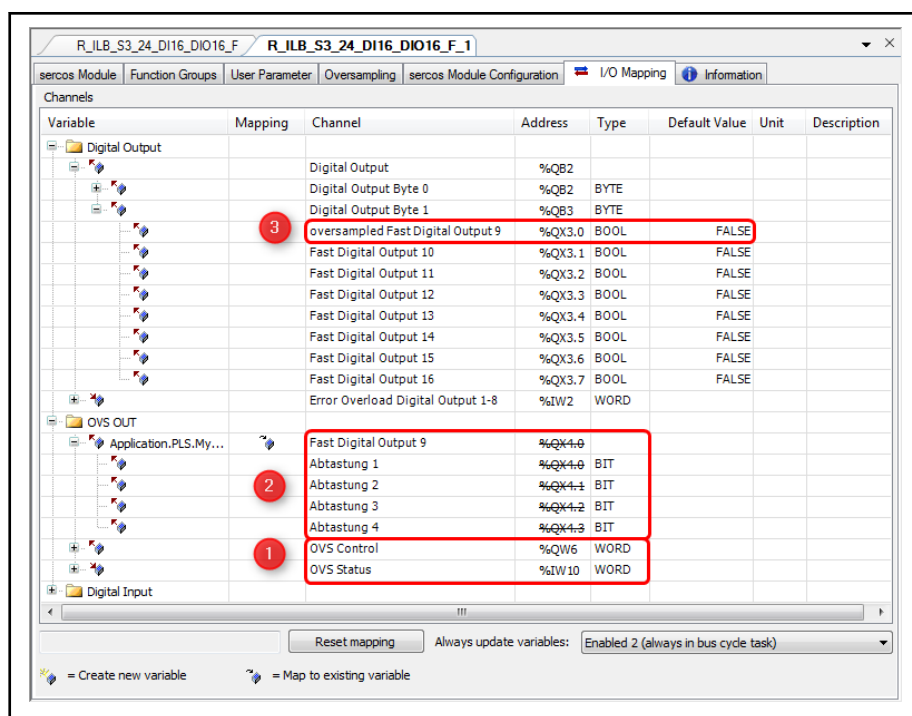

Fig. 9-27: E/A image with channels for oversampling
- **Control/Status:** If the checkbox is selected, the control and status word are also transferred. The corresponding I/O channels are added to the dialog "I/O Mapping" (see ① in fig. 9-27 "E/A image with channels for oversampling" on page 265).